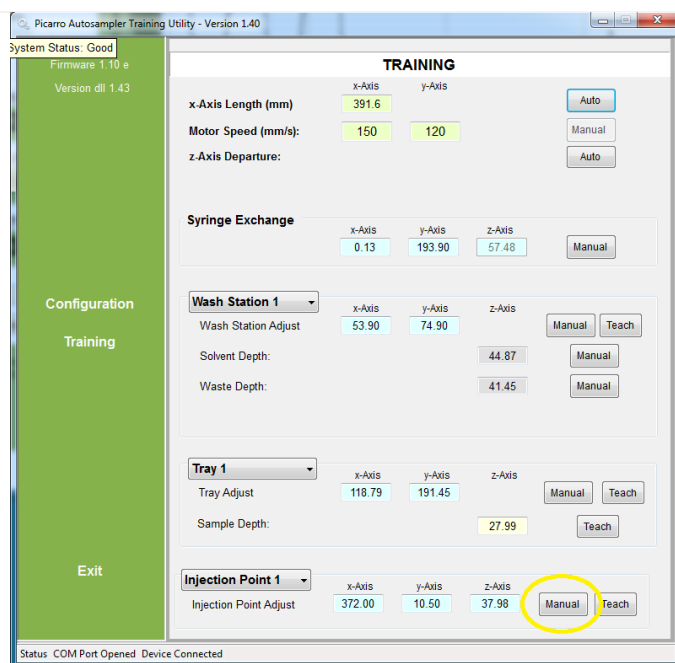

Figure 148. Select Manual for Injection Point.
STEP 24 | Select the “**Manual**” button for **Injection Point** to manually train the Autosampler to align with the Vaporization Module injection port (Figure 148).